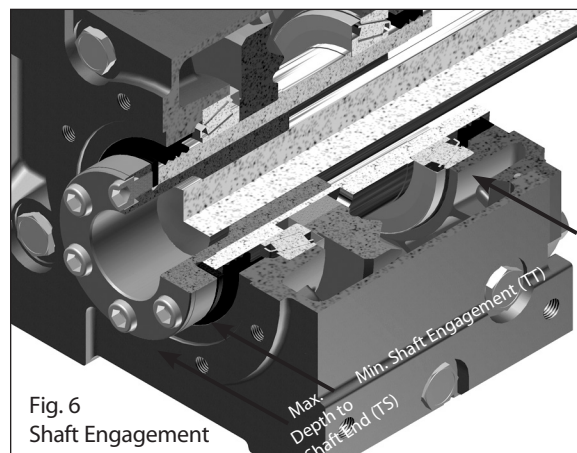
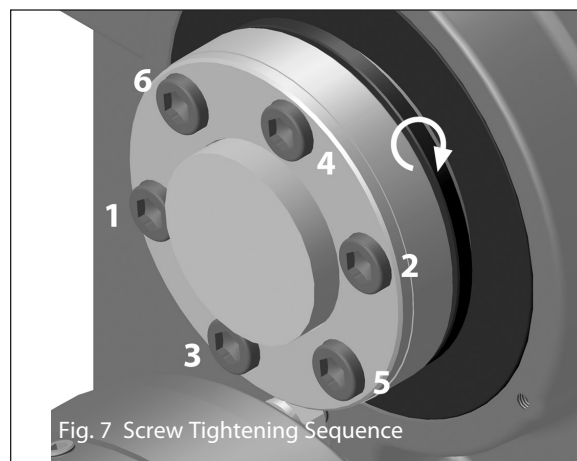

Fig. 6
Fig. 7 Screw Tightening Sequence
**Step 8** – Position unit with the bushing flange located on the outboard side of the unit. Align the bushing with the driven shaft. Slide the unit onto the driven shaft as close to the driven shaft support bearing as possible. Ideally, the driven shaft should extend beyond the bushing flange face (see Fig. 7). Refer to Fig. 6 and Table 2 below for minimum shaft to bushing engagement. For maximum depth to the end of the shaft, refer to Fig. 6 and Table 3 below.
**Step 9** – With a torque wrench, tighten the cap screws in 20% increments to engage the bushing system. Use the appropriate tightening pattern (“star-pattern” see Fig. 7) to assure complete bushing engagement. Tighten each cap screw to the torque values shown in Table 4.